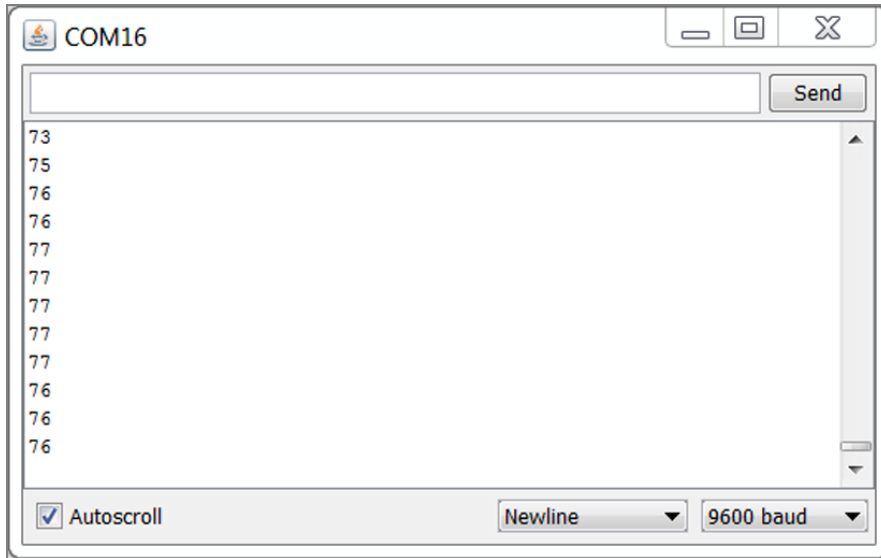

Figure 11-17: Wireless incoming data shown with the serial monitor
- Before using this to control the Processing sketch, you can open a serial monitor window from the Arduino IDE to see the input coming in through your XBee. Select the serial port that your Explorer is connected to and open the serial monitor to see the values streaming in (see Figure 11-17).